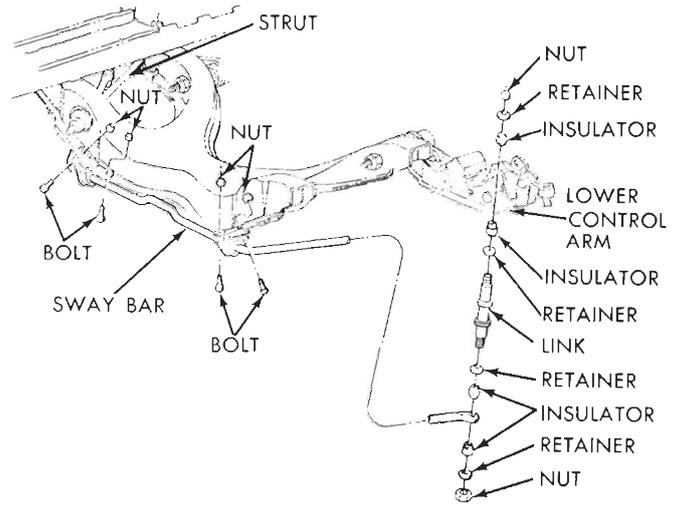
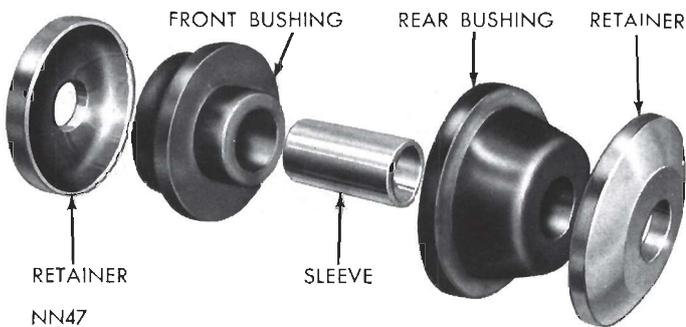

Fig. 11—Sway Bar Assembly (Satellite)
Fig. 17—Strut Crossmember Bushings (Satellite)
- (7) Remove strut spring pin, front nut and bushing retainer (Fig. 11) from forward end of crossmember.
- (8) Remove nut and washer from lower control arm shaft.
- (9) Tap end of lower control arm shaft with a "soft end" hammer to aid in removal of shaft from crossmember.
- (10) Remove lower control arm, shaft and strut as an assembly.
- (11) Remove strut bushing from crossmember only if damaged. All models (except Valiant) use a two piece bushing and sleeve arrangement (Figs. 17 and 18).
(1) Remove lower control arm, shaft and strut as an assembly.
(2) Remove nut holding strut to lower control arm and remove strut from control arm.
(3) Inspect strut bushings (Figs. 17 and 18). If bushings are worn or deteriorated, install new bushings.